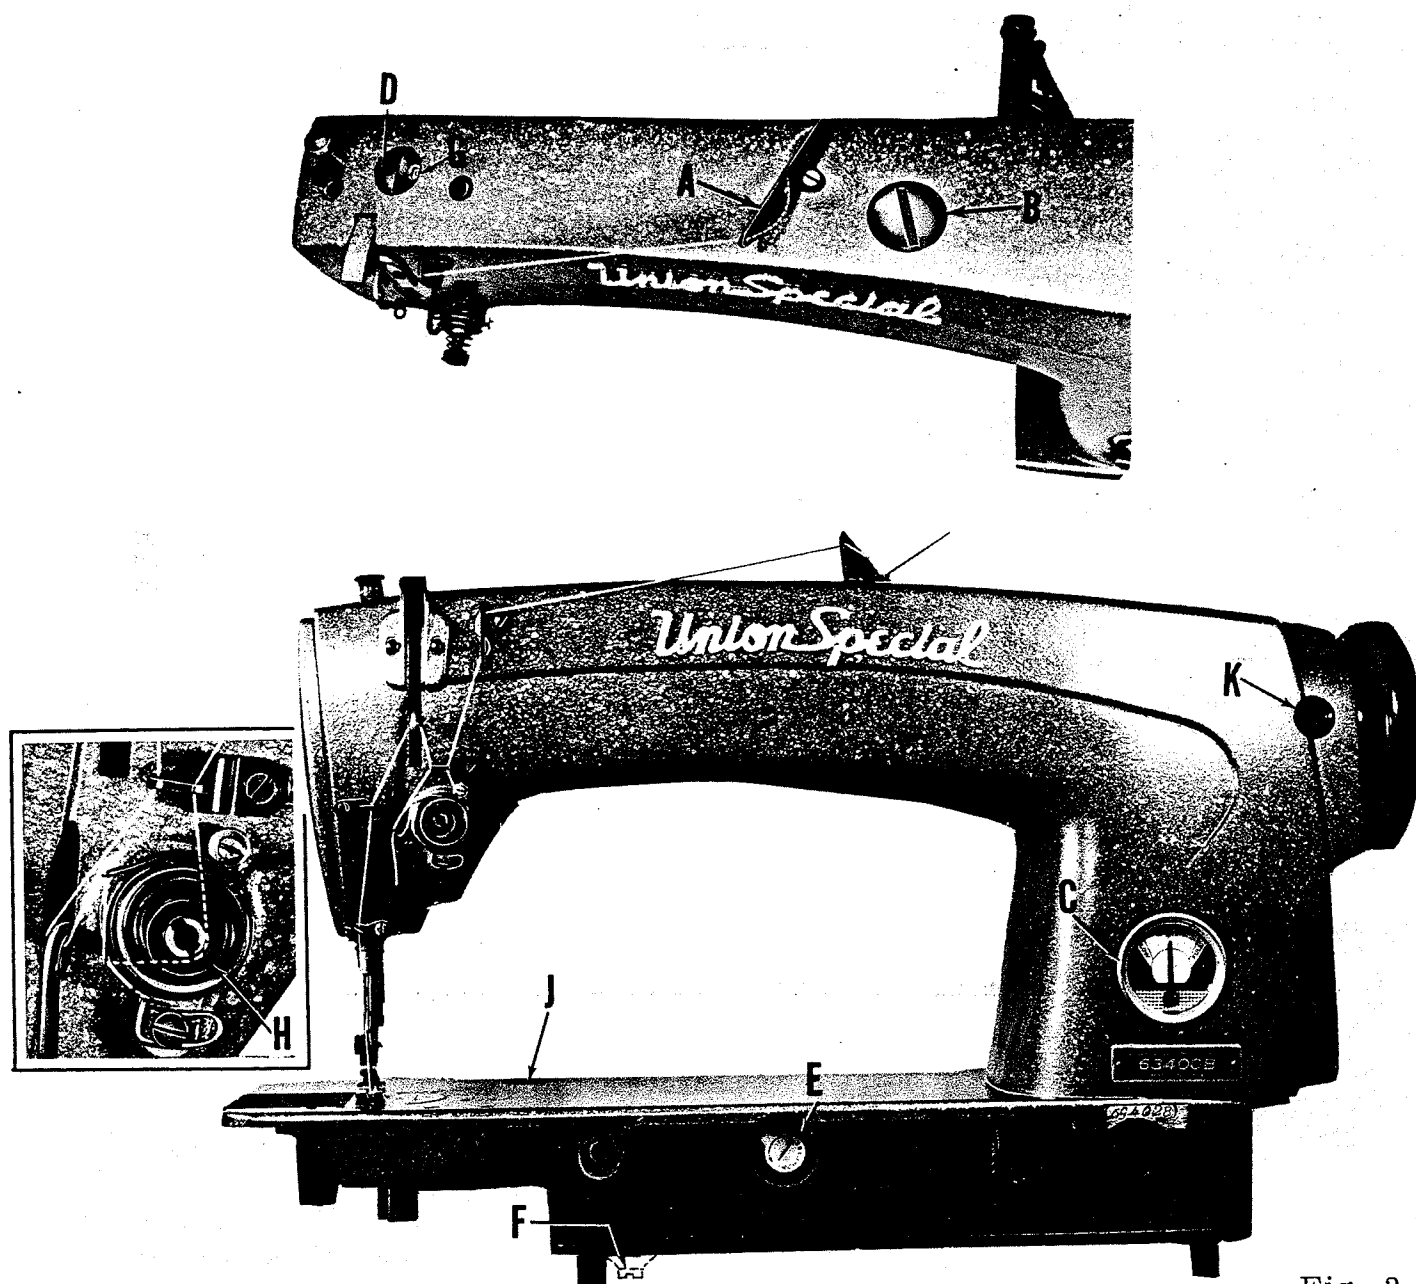

Fig. 2
Insert hinge studs in holes provided for them in rear of cloth plate. Assemble the upper frame eyelet (A, Fig. 2).
Use a stainless water-white straight mineral oil of a Saybolt viscosity of 90 to 125 seconds at 100° Fahrenheit in the main reservoir. This is equivalent to Union Special specification No. 175. Fill main reservoir at plug screw (B, Fig. 2) and check oil level at gauge (C); oil is at maximum level when needle is in yellow band marked "full". Oil should be added when needle is in yellow band marked "low".
CAUTION! The machine is provided with automatic or manual head mechanism oil control. The oil control dial (D, Fig. 2) is shown in the automatic oiling position, and should manual oiling of the head mechanism be desired, remove locking screw (G, Fig. 2) and turn dial 180° to expose the manual oiling port. In the manual oiling position, five or six drops of oil should be introduced into the oiling port twice daily - preferably at starting time and mid-day.
Oil may be drained from main reservoir by removing plug screw (F, Fig. 2).
4. Loosen the lock nut on the calibrating screw, and turn the screw left or right so that the gauge needle rests on the yellow band marked "FULL" on gauge (C, Fig. 2).
Threading diagram (Fig. 2) shows the places where the needle thread passes. Please note that the needle thread passes through the needle eye from left to right.
The needle thread tension is varied by turning the tension regulating nut (H, Fig. 2). Turning the nut in a clockwise direction increases the tension, while counterclockwise decreases it. This should not be done when the presser foot is in its raised position, but is generally done while the machine is sewing on a piece of scrap material.
Press plunger (J, Fig. 2) in firmly. While holding plunger in, turn handwheel in operating direction until stitch regulating finger is felt to drop into the slot of feed eccentric. Continuing to hold the plunger in, turn handwheel in operating direction to increase the stitch length and in opposite direction to decrease the stitch length.
Stitch lengths are indicated by graduations on the indicator dial and are viewed through the window in the belt guard (K, Fig. 2).